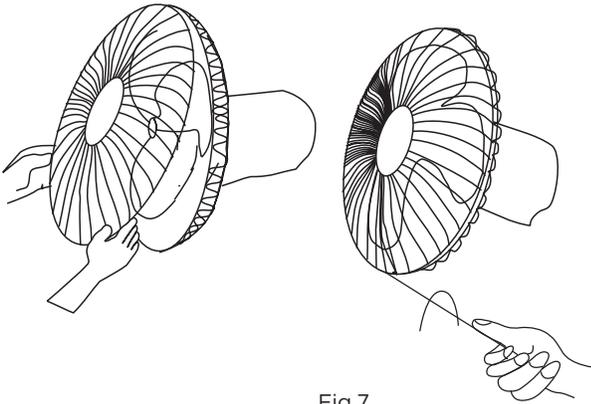

Fig.7
**3** Fix the front guard and the rear guard with circlip and then tighten the fan guard locking screw and nut. (Fig. 7)